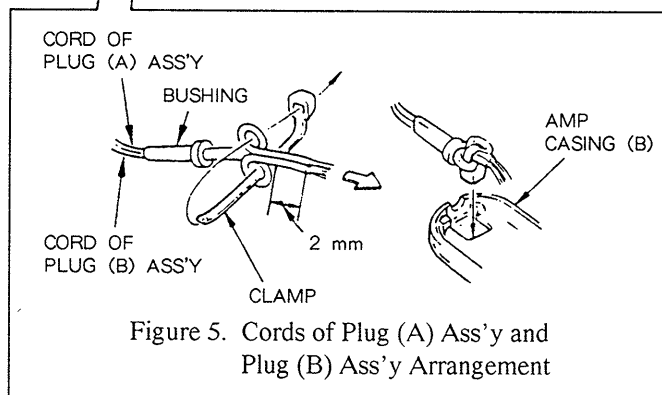
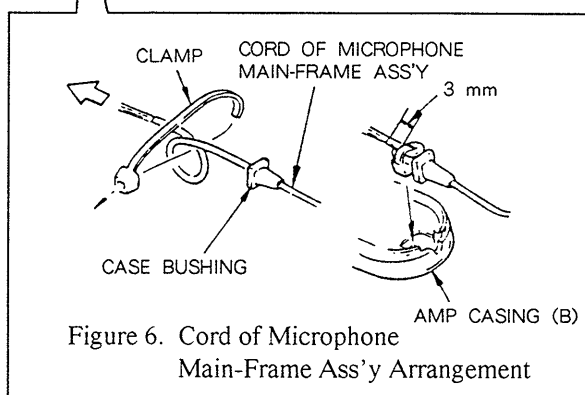

Figure 5. Cords of Plug (A) Ass'y and
Figure 6. Cord of Microphone
- (1) Pass through the cords of the plug (A) ass'y and plug (B) ass'y to the bushing. (See Figure 5.)
- (2) Bundle the cords of the plug (A) ass'y and plug (B) ass'y by the clamp. (See Figure 5.)
- (3) Solder the lead wires of the plug (A) ass'y and plug (B) ass'y to the amp board mount.
- (4) Put the cords of the plug (A) ass'y and plug (B) ass'y in the amp casing (B).
- (5) Pass through the cord of the microphone main-frame ass'y to the case bushing. (See Figure 6.)
- (6) Bundle the cord of the microphone main-frame ass'y by the clamp. (See Figure 6.)
- (7) Solder the lead wire of the microphone main-frame ass'y to the amp board mount.
- (8) Put the cord of the microphone main-frame ass'y in the amp casing (B). (See Figure 6.)
- (9) Assemble the amp casing (A) to the amp casing (B) by screwing the screw.